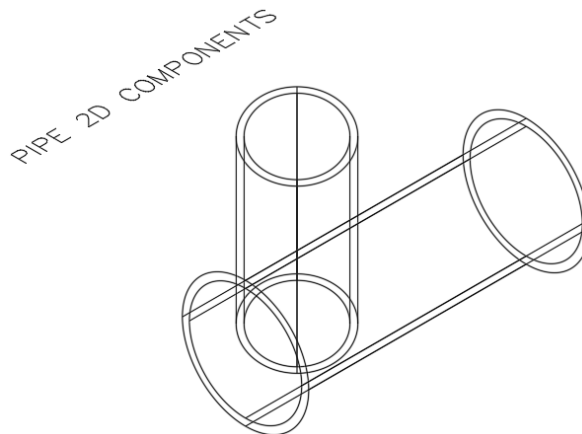

Figure 7.6 – Result of pipe sweeps along centerlines
4. With our main pipeline modeled, let's go ahead and apply the SWEEP command again on the branch pipeline, with the result appearing similar to that displayed in Figure 7.6.